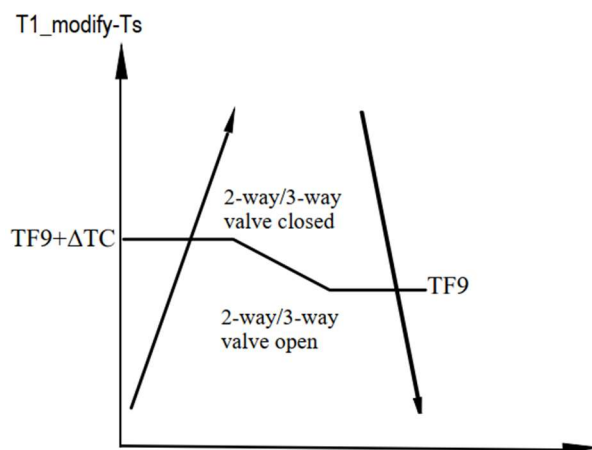
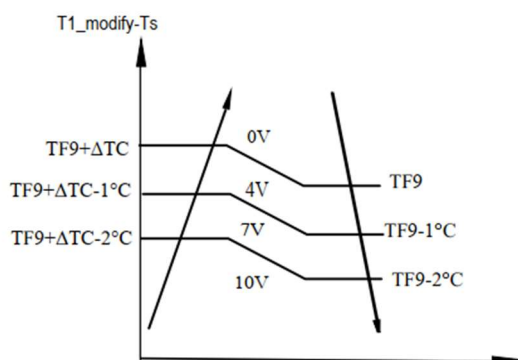
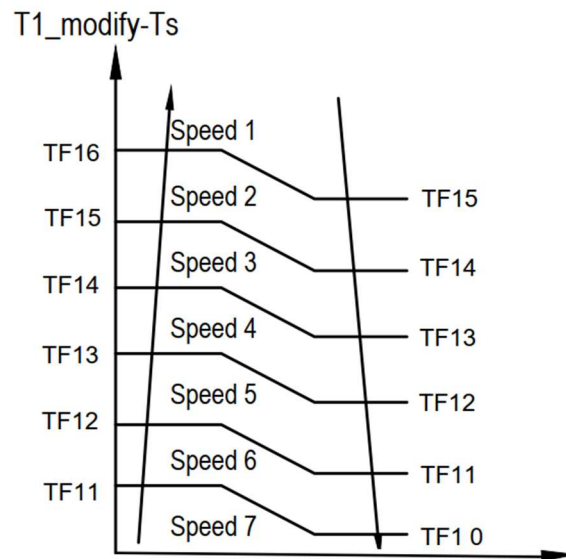

Figure 4.5 Action rule diagram for 3-way valve or 2-way valve in heating mode
Figure 4.6 0-10V output control valve regulation logic in heating mode
Figure 4.7 Heating mode auto fan speed judgment diagram
In heating mode, the 3-way valve or 2-way valve is controlled as shown in Figure 4.5. If a 0-10V output control valve is used, it is controlled as shown in Figure 4.6. In Figure 4.6, 0V output indicates the valve is fully closed, 10V output indicates the valve is fully open, and other values represent different degrees of opening. (Please remind the customer that the actuator action of the selected valve must be consistent with our functional logic. If not, customization is required.) If the fan speed is set to auto, the fan speed will be determined according to Figure 4.7.
1. In Figures 4.5, 4.6, and 4.7, the temperature points from bottom to top have "≥", while from top to bottom have "<".